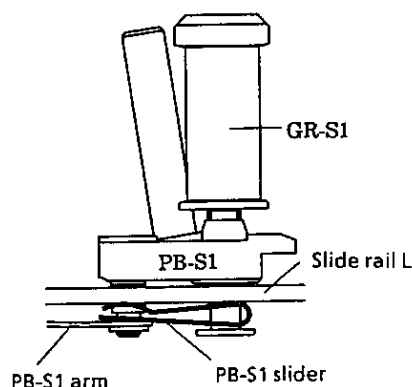

Figure 7-5-14-1
- 1) Insert the slide rail L between the pole base and the PBS1 slider as shown in Figure 7-5-14-1.